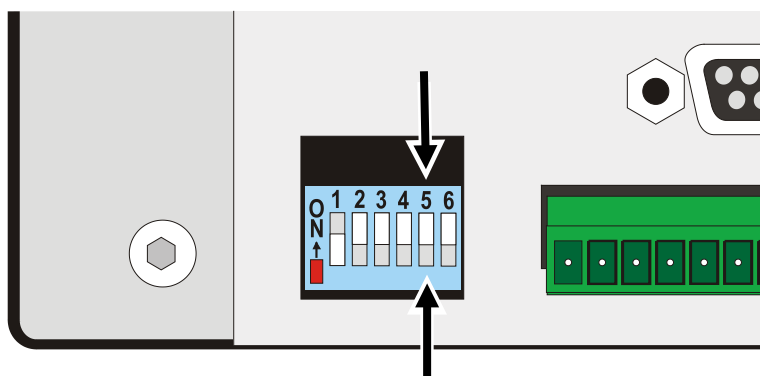

Figure 1-2 Valve Selector Switch
* When using the DV-7000 or DV-8000 valve, make sure that the Valve Selector switch, DIP Switch 5 located on the main board outside the electronics pan (Figure 1-2), is set to the proper position. The default setting is DV-8000 (up). Switch 5 setting does not affect any of the other valves.